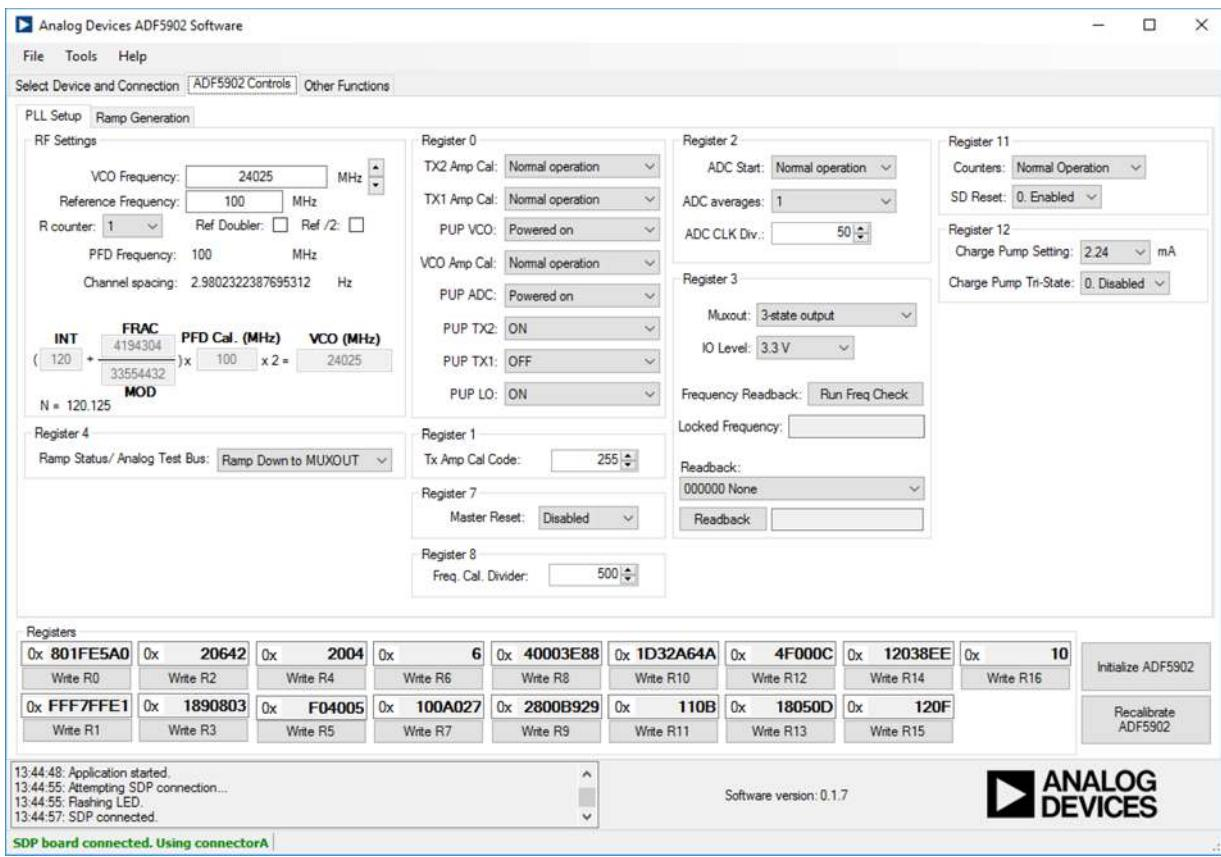

Figure 4. **PLL Software** Window Display, **ADF5902 Controls**
9. Click the **ADF5902 Controls** tab, and then click **Initialize ADF5902** in the bottom right corner of the window (see Figure 4).
Click the **ADF5902 Controls** tab in the **PLL software** window (see Figure 4) to select the user configurable register settings. Consult the register descriptions of the ADF5902 data sheet for details. Default settings are recommended for most registers.
1. In the **PLL Setup** tab (see Figure 4), set the reference frequency (RF) settings for the PLL in the **RF Settings** section, and the required settings for the TX2, TX1, and LO outputs in the **Register 0** section.
To program any of the ADF5902 registers, click the button under each register value in the **Registers** section at the bottom of Figure 4 to write that value to the device. For example, to write the value for Register R0, click the **Write R0** button.